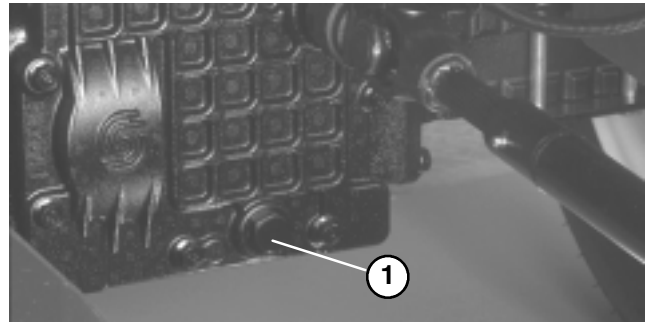

Figure 30
CHANGING HYDRAULIC SYSTEM OIL & FILTER (Fig. 30 – 29)
3. To ease access to axle housing drain plug (Fig. 30), implement may be removed from traction unit.
7. Install drain plug in axle housing (Fig. 30).